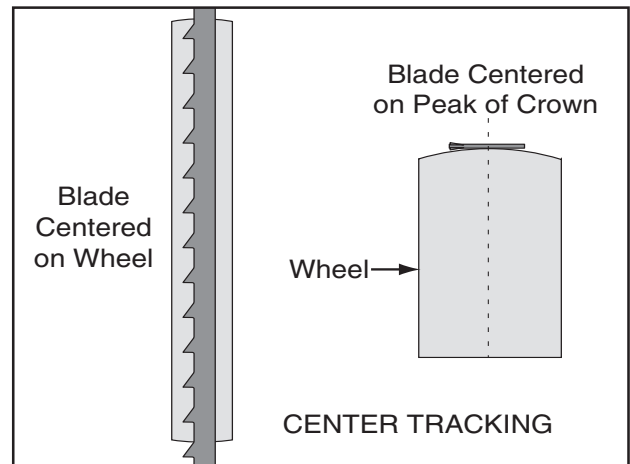

Figure 19. Center tracking profiles.
5. Spin the upper wheel by hand at least three times and watch how the blade rides on the crown of the wheel. Refer to **Figure 19** for an illustration of this concept.